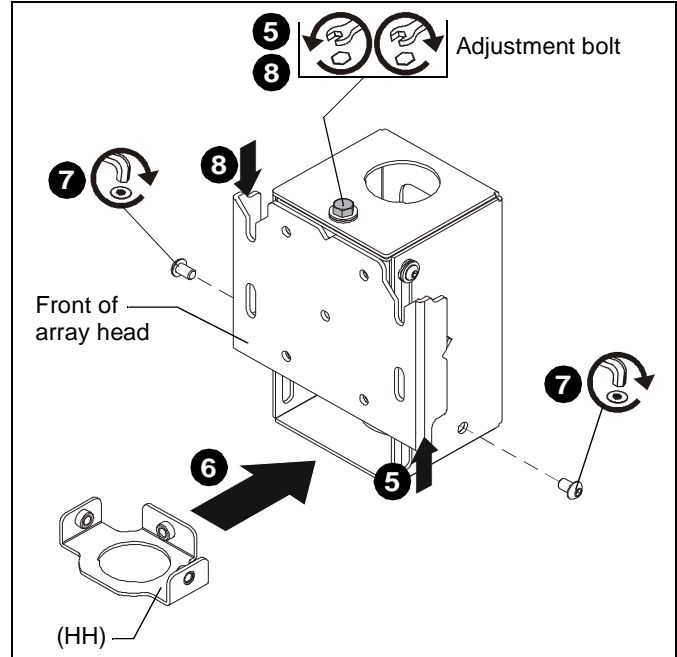

**Figure 1**
1. Turn the array head (FF) upside down. (See Figure 1)
2. Remove **AND SAVE** two buttonhead screws from array head. (See Figure 1)
3. Remove and discard inner bracket from array head. (See Figure 1)